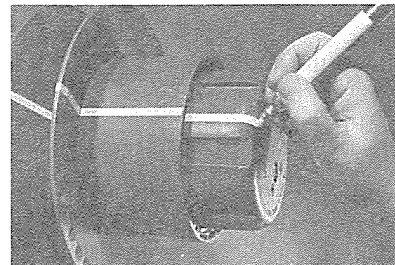

Figure 32
4. Use a marking pen or quick-drying paint to reference all parts as shown in Figure 32. **This is important, as all parts must be reassembled in their original positions to maintain the sheave's balance.**